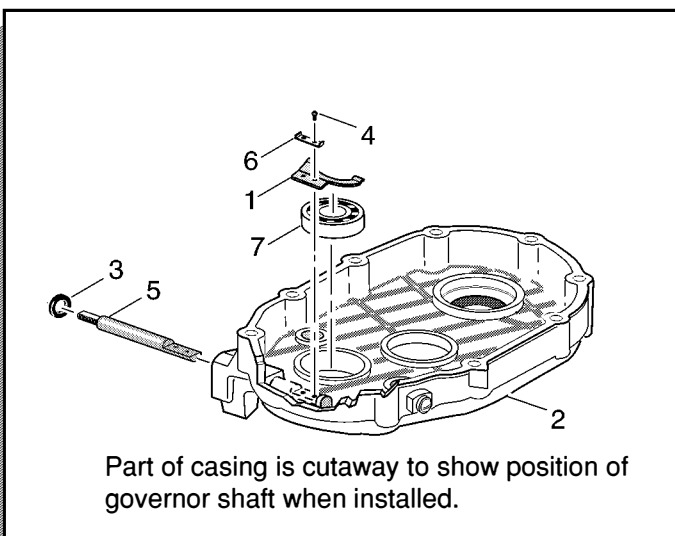

Fig. A-7 Governor fork Removal
A. Using a small, sharp screwdriver or other suitable tool, carefully remove the oil seal (28) from the selector shaft bore.
B. Use a small pair of snap ring pliers to remove the snap ring (29) and spacer (30).
5. Remove the governor fork (1) from the top half of the casing (2) (Ref Fig. A-7 on page A-4).
A. Using a small sharp screwdriver or other suitable tool, carefully remove the governor shaft seal (3).
B. Using a #2 Phillips screwdriver, remove two screws (4) with washers attaching the governor fork to the governor fork shaft (5).
C. Remove the shaft retainer (6) and governor fork.
6. If the input shaft bearing (7) is still in the casing bore, remove and mark it for location (Ref Fig. A-7 on page A-4).